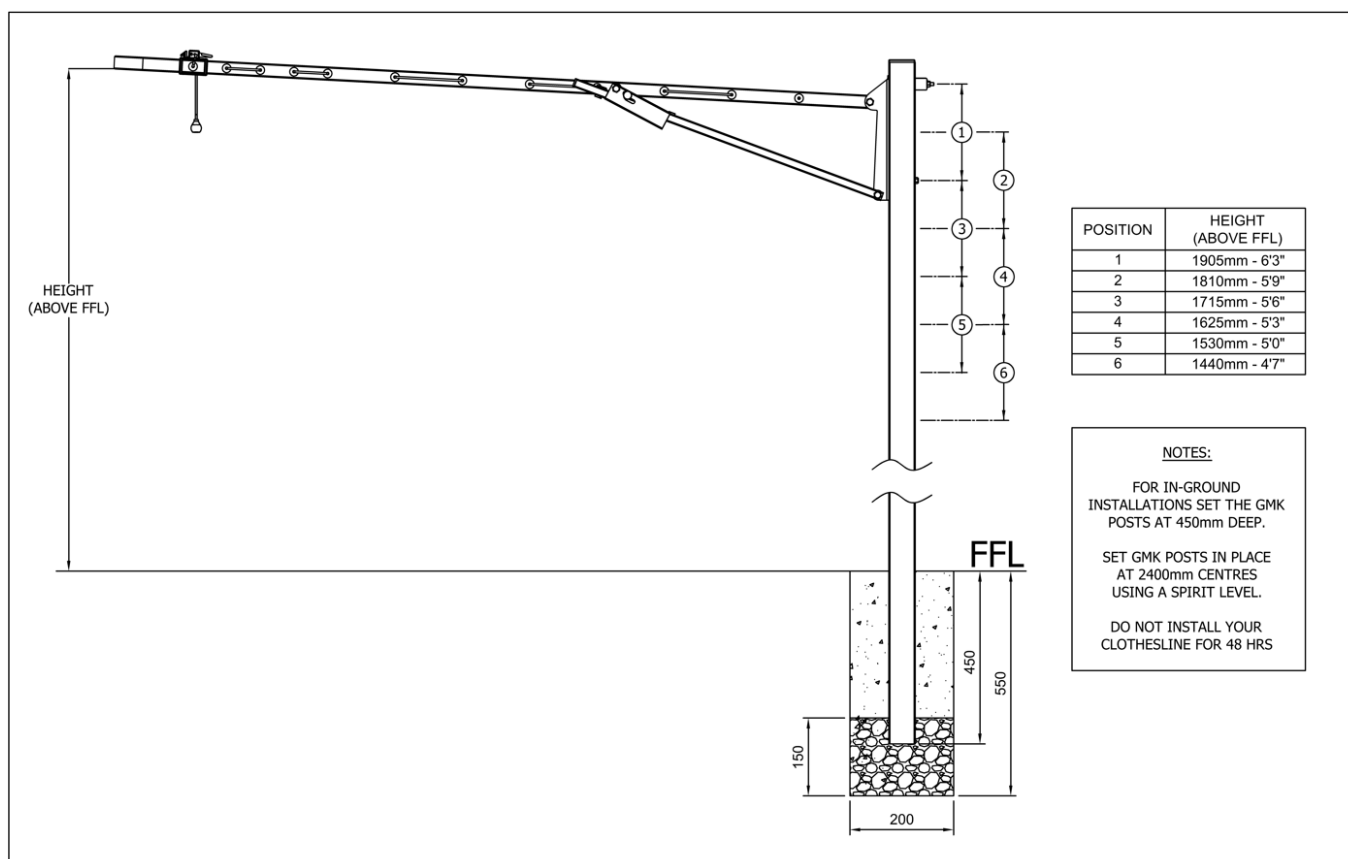

Fig 8. GMK in-ground installation.
3. GMK has multiple height settings. Pick the one that best suits the end user, (50mm above head height is recommended). See Figs 8 and 9 for recommended installation heights.
- Install the GMK as per the below image (Fig 8) at 2,400mm centres.